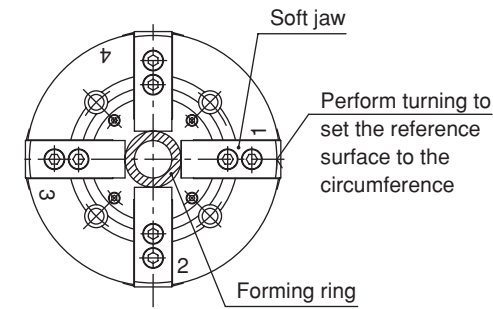

Fig.12-1
1. Grip the forming ring in the center of jaw stroke as shown in Fig.12-1, and perform turning of the soft jaw circumference to attain the reference surfaces.